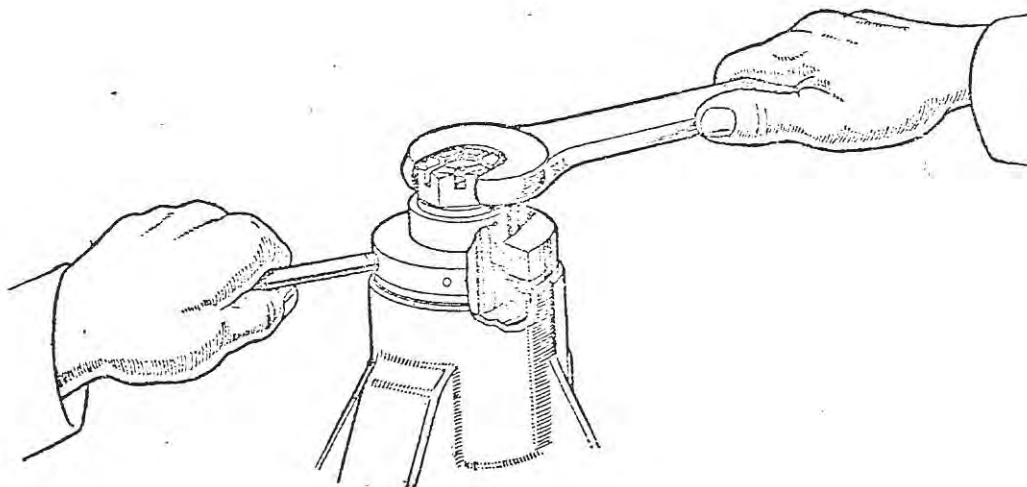

FIGURE 12
- (1) Remove the drive pinion nut, washer and companion flange.
- (2) Install the oil slinger and then fit the pinion oil seal assembly using Tool No. SL.4PB or 5PB (SE.108) as shown in Figure 12. Place the oil seal with the dust excluder flange uppermost (not omitting the oil seal gasket used with the metal case-type seal, fit the tool, and then tighten down the pinion nut and washer to drive the assembly home. Remove the tool.
- (3) Fit the companion flange with dust excluder washer and pinion nut, tighten, and where a self-locking nut is not used secure with a cotter pin.
- (4) Fit the rear cover gasket, renewing it if required, and the rear cover, securing same with set bolts and lock washers, and not omitting the ratio tag which is attached by one of the set bolts.
- (5) Re-install the axle shafts and hub bearings, etc., as described on Page 7 under "To Replace Axle Shafts".
- (6) Check that the drain plug is securely tightened, then fill with the appropriate quantity of one of the Hypoid Lubricants listed in Table 1, Page 24.
- (7) Replace the filler plug and check that the cover set bolts are tight.
- (8) Check for oil leaks at the cover, pinion oil seal and where the differential cap bolt holes break through the carrier.
- (9) Finally grease the hub bearings.